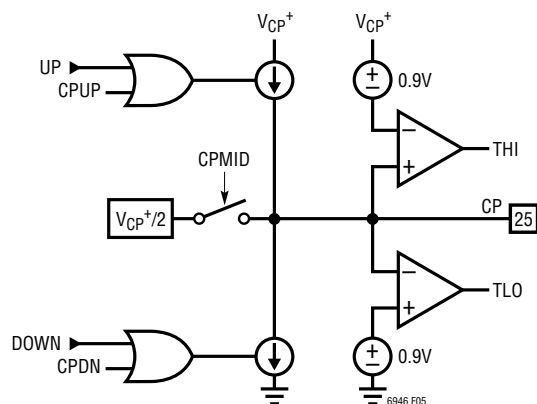

Figure 5. Simplified Charge Pump Schematic
The charge pump, controlled by the PFD, forces sink (DOWN) or source (UP) current pulses onto the CP pin, which should be connected to an appropriate loop filter. See Figure 5 for a simplified schematic of the charge pump.
The CPCHI and CPCLO bits found in register h0A enable the high and low voltage clamps, respectively. When CPCHI is enabled and the CP pin voltage exceeds approximately  $V_{CP^+} - 0.9\text{V}$ , the THI status flag is set, and the charge pump sourcing current is disabled. Alternately, when CPCLO is enabled and the CP pin voltage is less than approximately  $0.9\text{V}$ , the TLO status flag is set, and the charge pump sinking current is disabled. See Figure 5 for a simplified schematic.